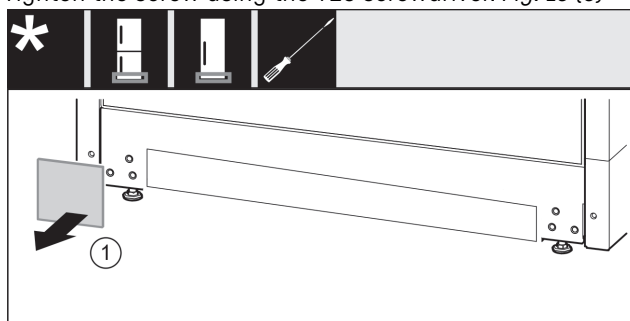

Fig. 14
- Take off the cover. *Fig. 14 (1)*